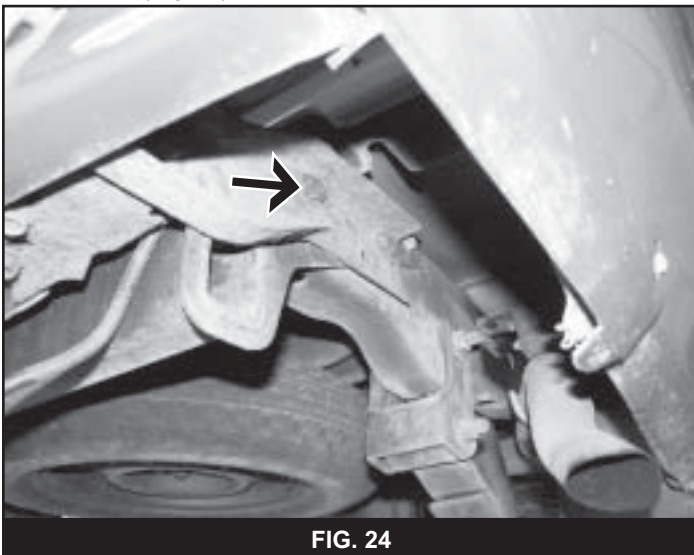

FIG. 24
34. Remove the six bolts (three per side) mounting the rear bumper to the frame and remove the bumper from the vehicle (Fig 24).